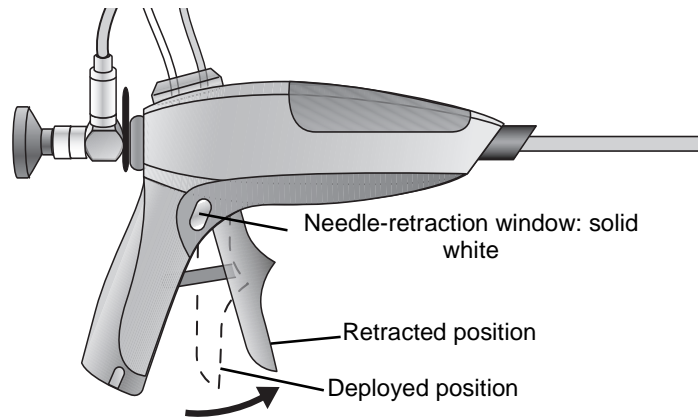
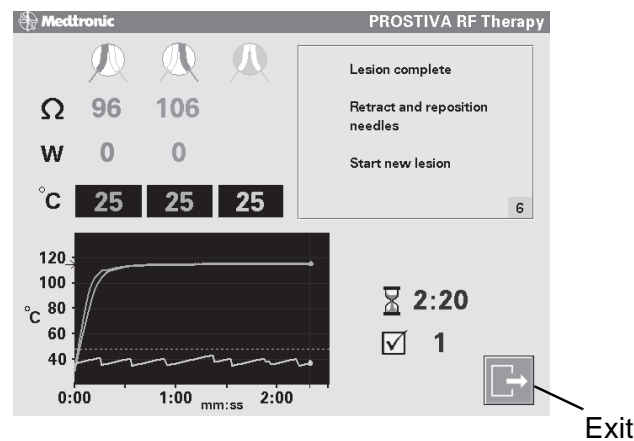

Figure 4-13. Fully Retract the Trigger Mechanism.
Figure 4-14. Confirm “Lesion Complete” on Therapy Screen Display.
13. When the lesion treatment is complete, confirm that the "Lesion Complete" message appears on the screen display (Figure 4-14), and fully retract the hand piece trigger mechanism (Figure 4-13).
16. Press the “Exit” icon button (Figure 4-14) to access the “New Patient” window on the screen display (Figure 4-15).